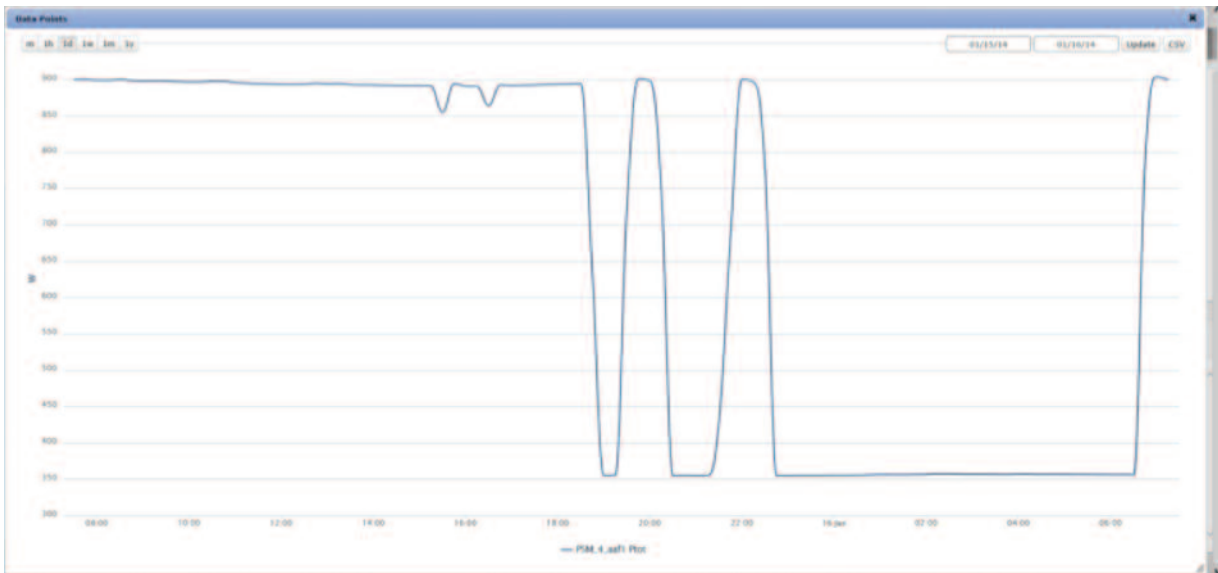

Figure 11
9.6.5 This will graph the total power usage of that PSM, as in Figure 11.